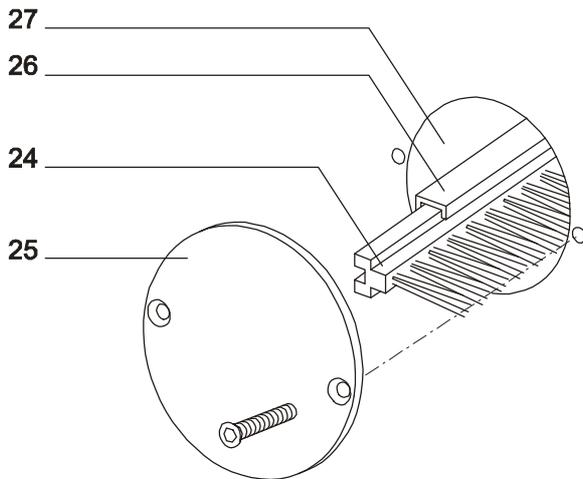

Fig. 3: Brush assembly
If brushes (24) have not yet been installed in the guide rail (26), the lid (25) on the opening for replacing brushes (27) in the left side wall should be opened (see Fig. 3: Brush assembly).